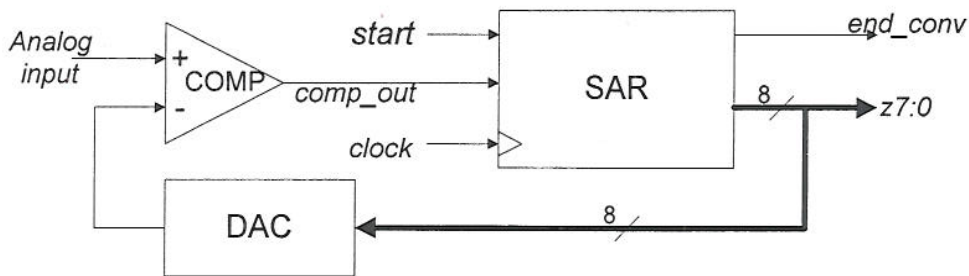

Figure 6.1
6. Figure 6.1 shows the circuit for an 8-bit successive approximation A/D converter. It consists of three components: a voltage comparator, an 8-bit D/A converter and a successive approximation register (SAR). The SAR operates synchronously with the rising edge of *clock*. A conversion sequence begins on the rising edge of clock after the signal *start* goes high. At the same time, the *end_conv* signal should go low indicating that the SAR output *z7:0* is not valid. Then after 8 clock cycles, the converted digital output on *z7:0* becomes valid and the *end_conv* signal returns high.